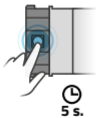

Fig. 6b
- press for 5 seconds **PROGRAMMING BUTTON** in the motor - Fig. 6b;